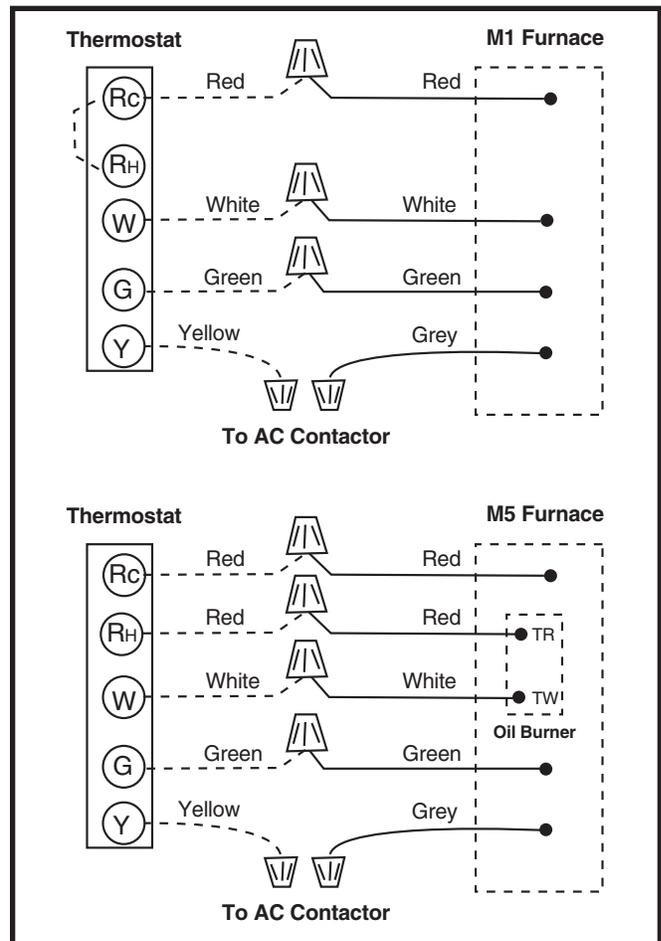

Figure 25. Thermostat Wiring
to the black wire. The furnace will not operate unless the polarity and ground are properly connected as shown in Figure 25 \(page 14\).
2. Connect the thermostat wires to the furnace low voltage pigtails (dependent on the installation application). See Figure 25 \(page 14\).